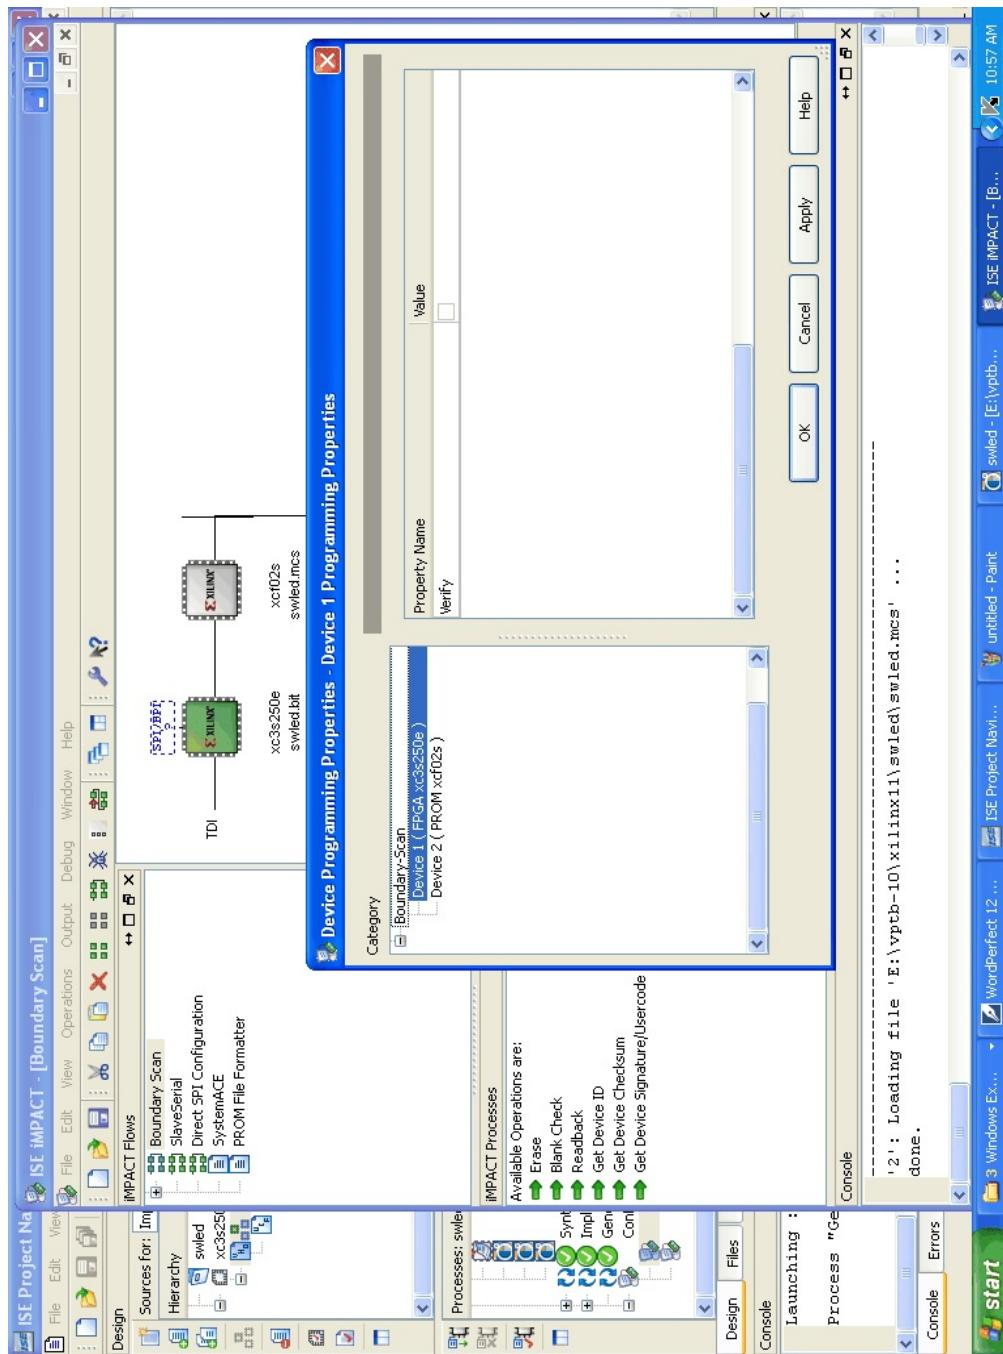
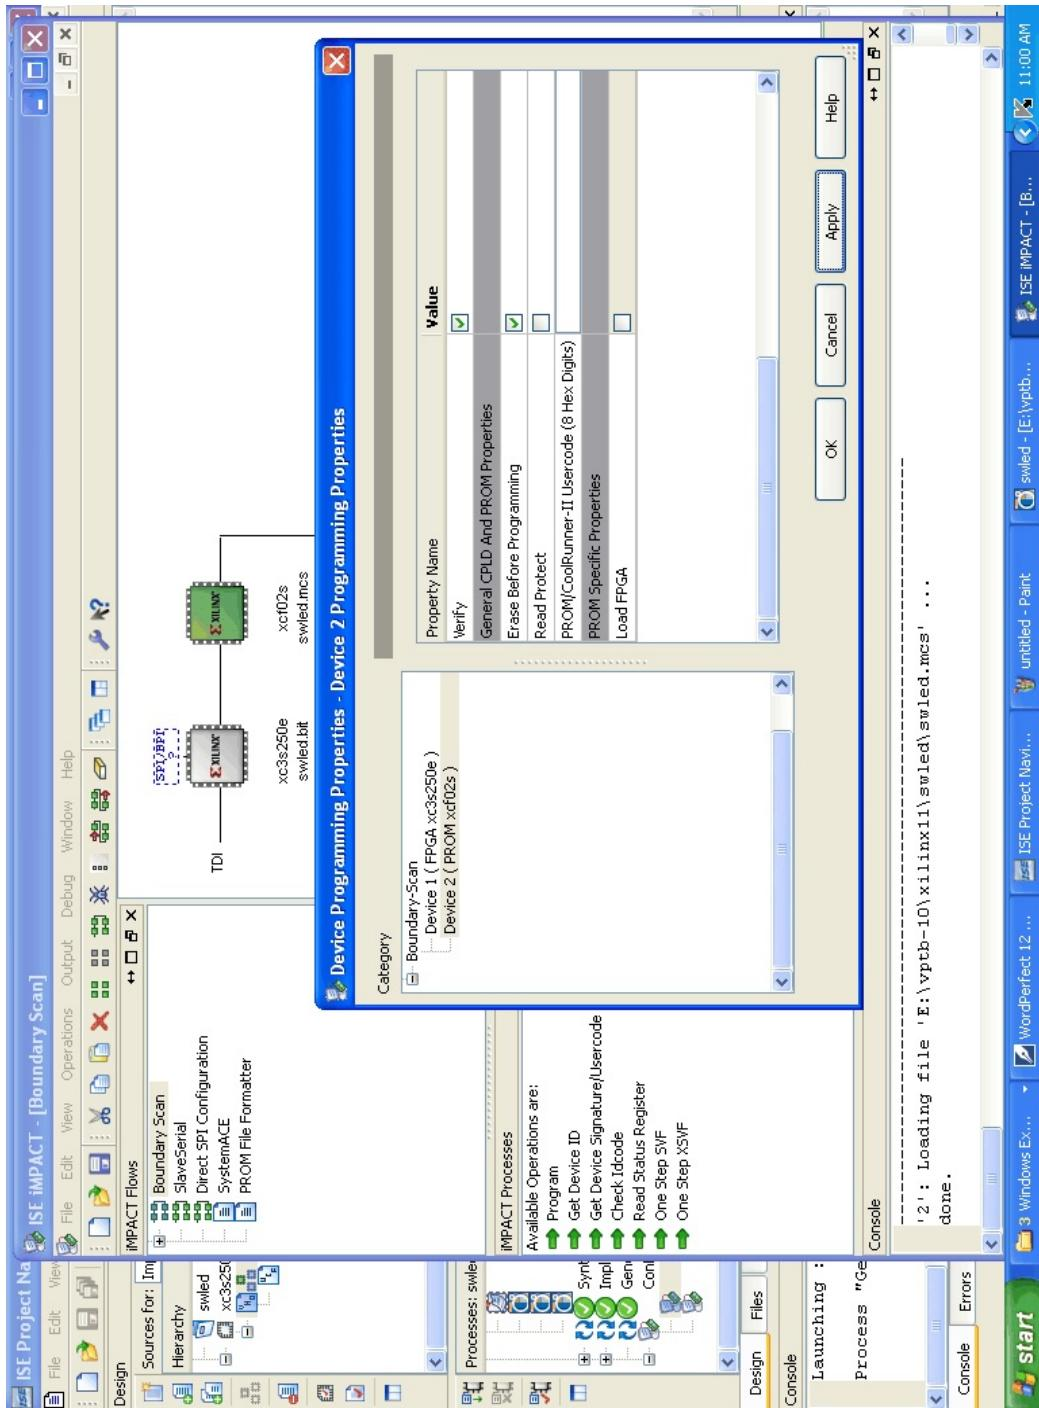

Figure-60
Figure-62
26. A new dialog box will appear as shown in **Figure-60**, in that dialog box for **Device1 (FPGA xc3s250e)** the **Verify** check box **must not be checked** and the **Device2 (PROM xcf2s)** and click the **Verify** and **Erase Before Programming** check boxes as shown in **Figure-60,61** and then click **Apply** and then click **Ok** (refer **Figure-62,63**).